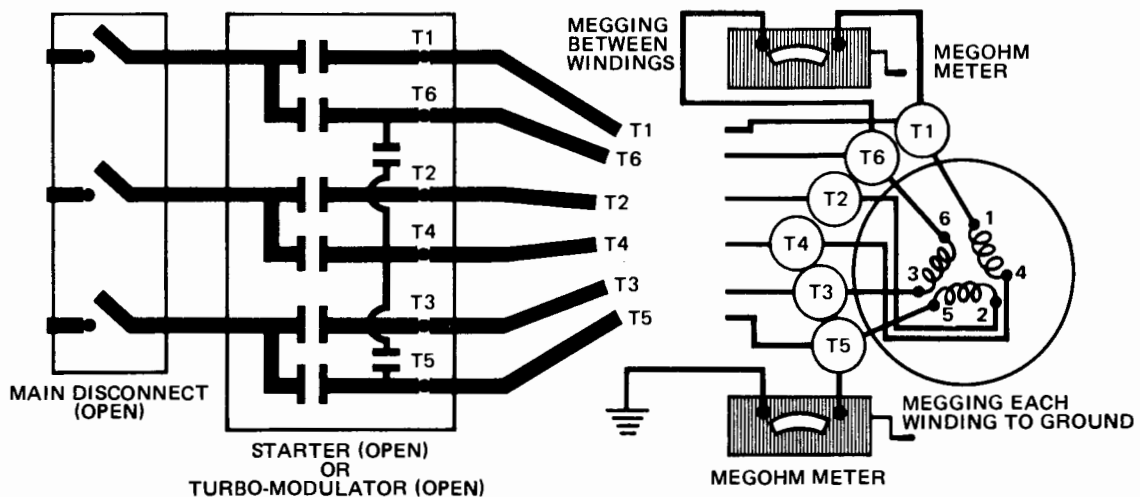
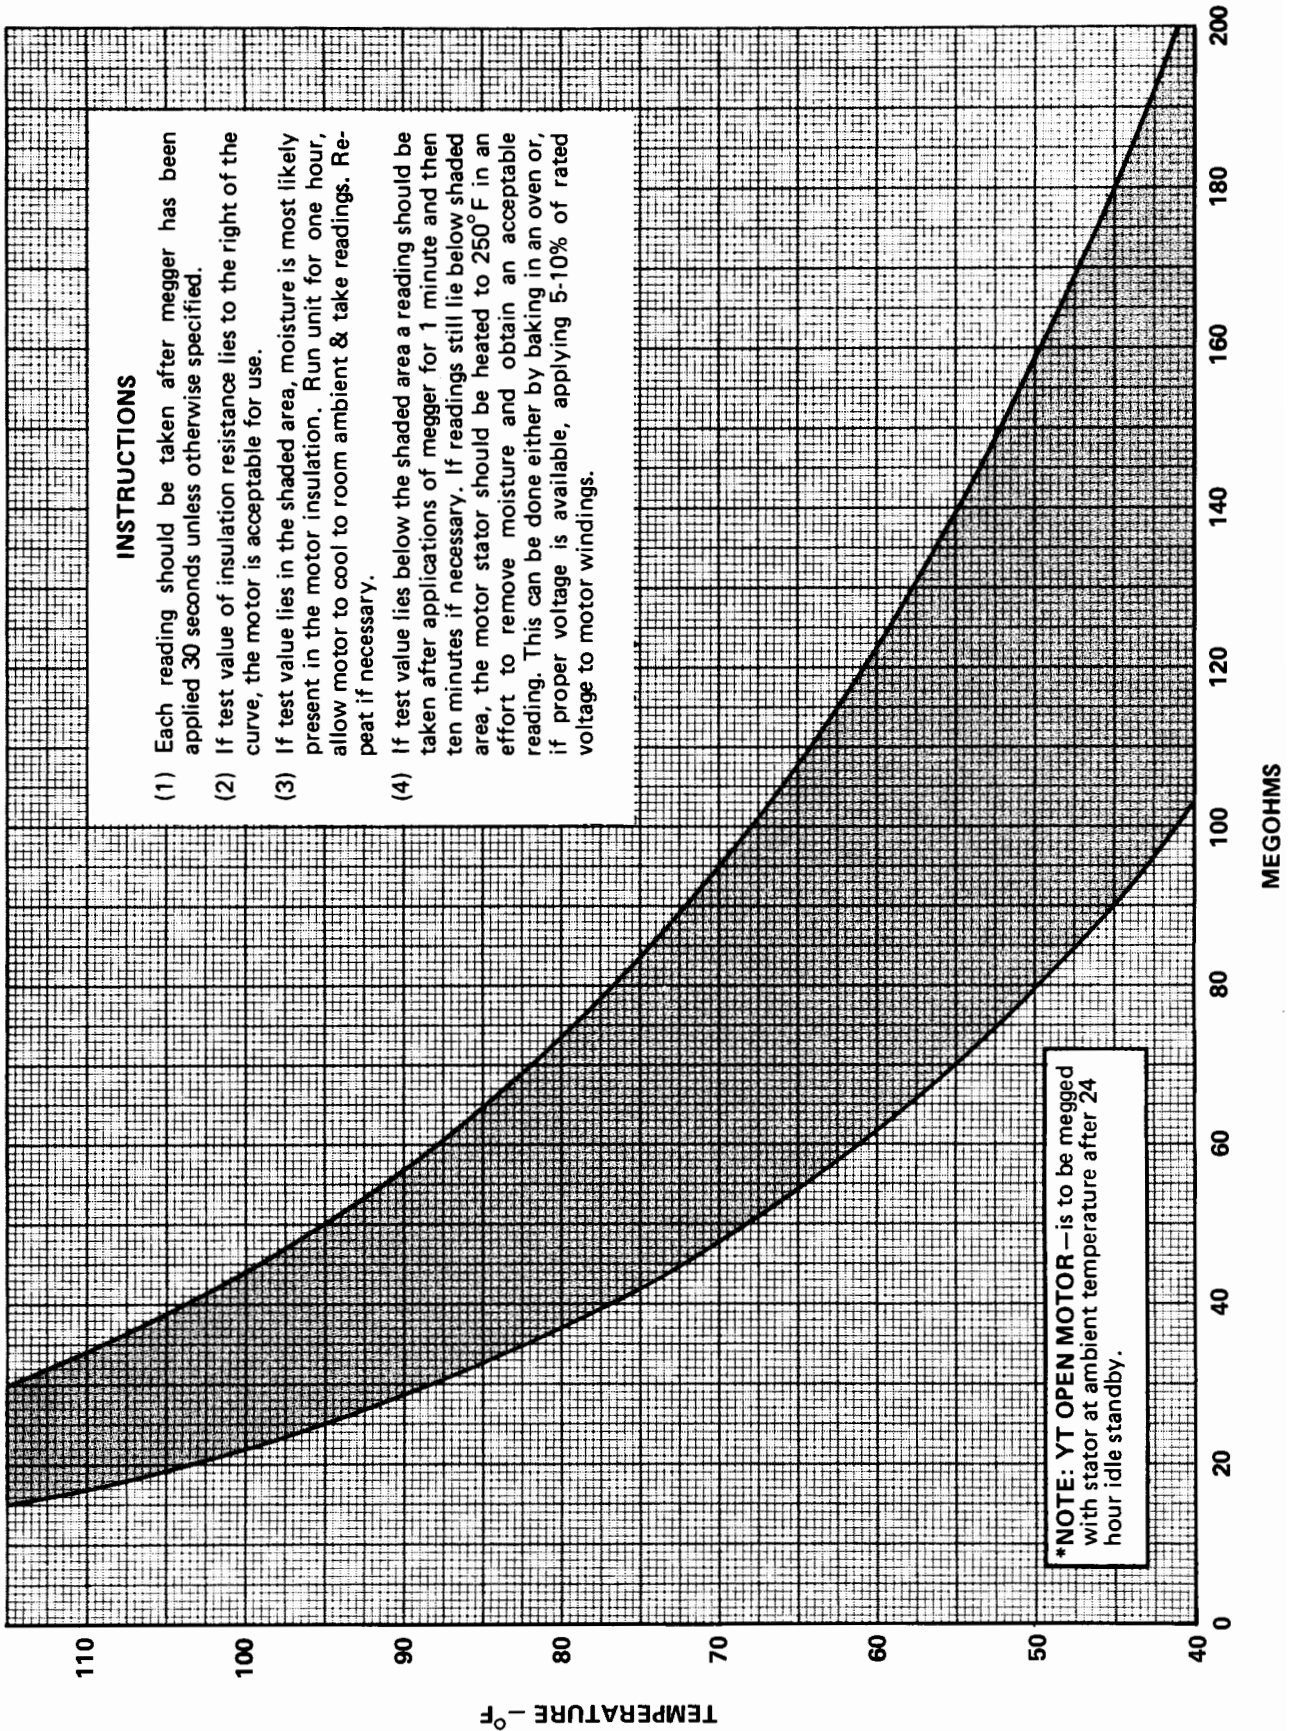

FIG. 18 — DIAGRAM, MEGGING THE MOTOR WINDINGS
FIG. 19 — MOTOR STATOR TEMPERATURE AND INSULATION RESISTANCES
1. Using a megohm meter (megger), meg between phases and each phase to ground (See Fig. 18); these readings are to be interpreted using the graph shown in Fig. 19, page 32.